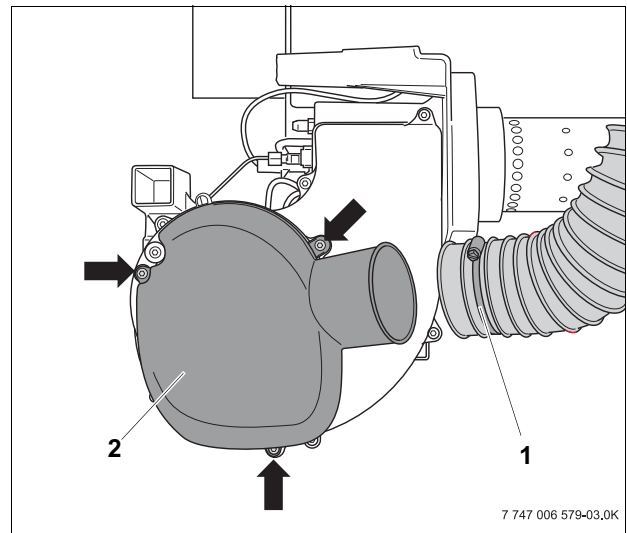
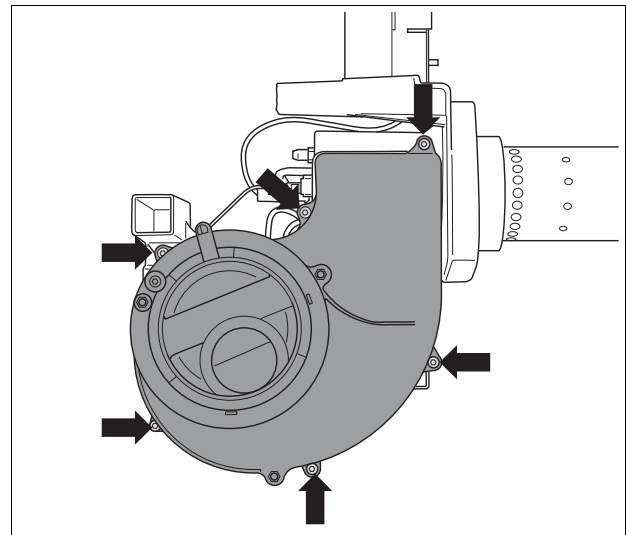

Fig. 18 Remove intake silencer
Fig. 19 Remove fan cover
- Undo the hose clamp (Fig. 18, **Item 1**) on the air supply hose.
- Undo the screws (Fig. 18, **arrows**) and remove the air intake silencer (Fig. 18, **Item 2**).
- Undo the six screws (Fig. 19, **arrows**) and remove the fan cover.
- Refit fan cover (Fig. 19), air intake silencer (Fig. 18, **Item 2**) and hose.